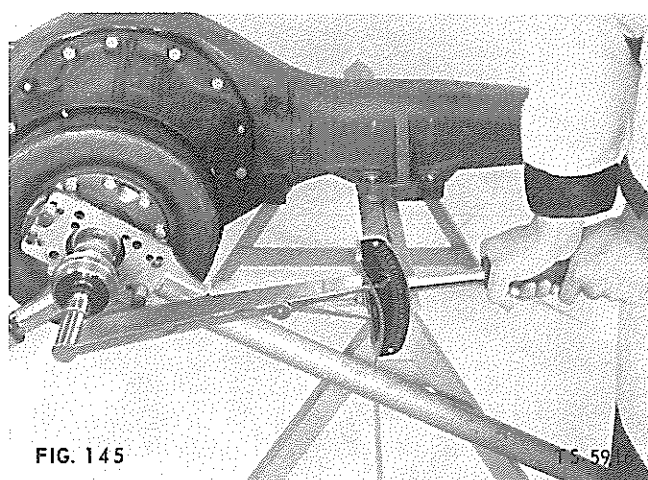

FIG. 145
8. Position assembled parking brake drum and companion flange on pinion shaft of differential. Secure with flat washer and nut (Fig. 145). Tighten to torque specifications charted below. Install cotter pin to retain nut to shaft.